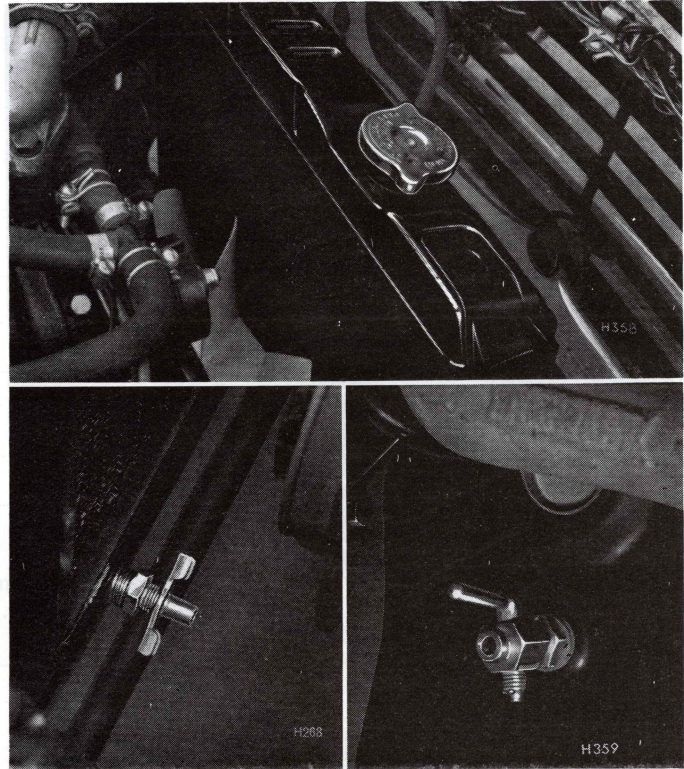

Fig. 36 (left)      Fig. 37 (upper)      Fig. 38 (right)
To drain the system, move the heat control (23) Fig. 2, to the hot position, remove the radiator filler cap (Fig. 37) and open the tap at the rear right-hand side of the cylinder block (Fig. 38) and the tap at the bottom of the radiator (Fig. 36).